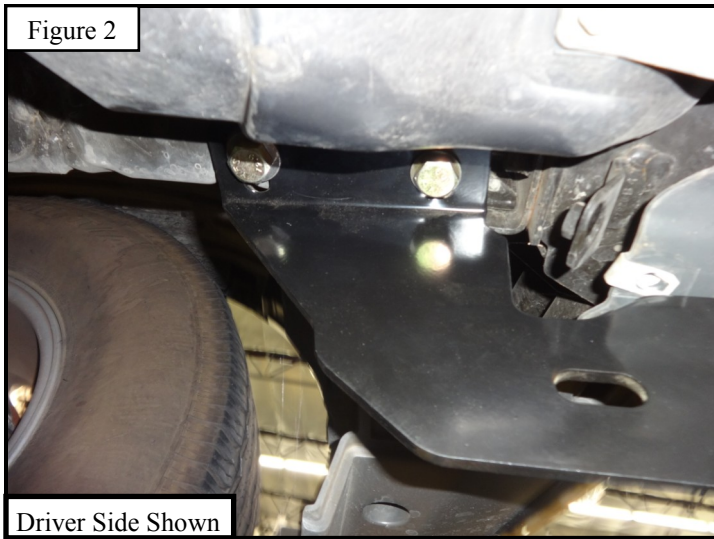

Figure 2
3. Loosely attach the Lower Brackets (item 2 & 3) to each side of the frame, using (4) M12 fine thread hex head cap screws (item 17), (4) M12 lock washers (item 18), and (4) M12 flat washers (item 19). (Figure 2)